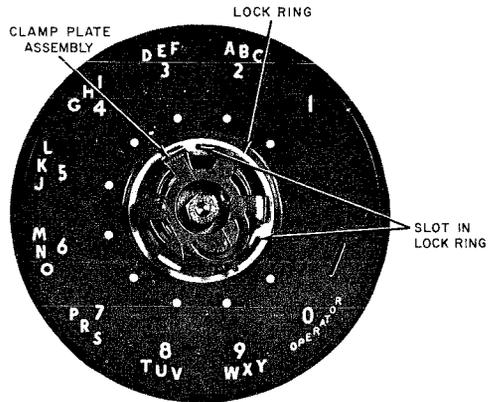

Fig. 6 — Fingerwheel and Finger Stop Removed to Show Lock Ring
- (1) Remove fingerwheel (see 6.01).
- (2) Remove finger stop by loosening finger stop mounting screw.
- (3) Insert tip of screwdriver blade into one of the three slots on the lock ring (Fig. 6).